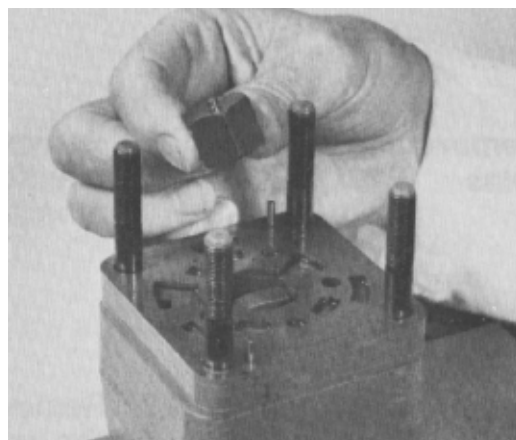

Figure 55
16. Remove the hex drive assembly from the drive link (Fig. 55).